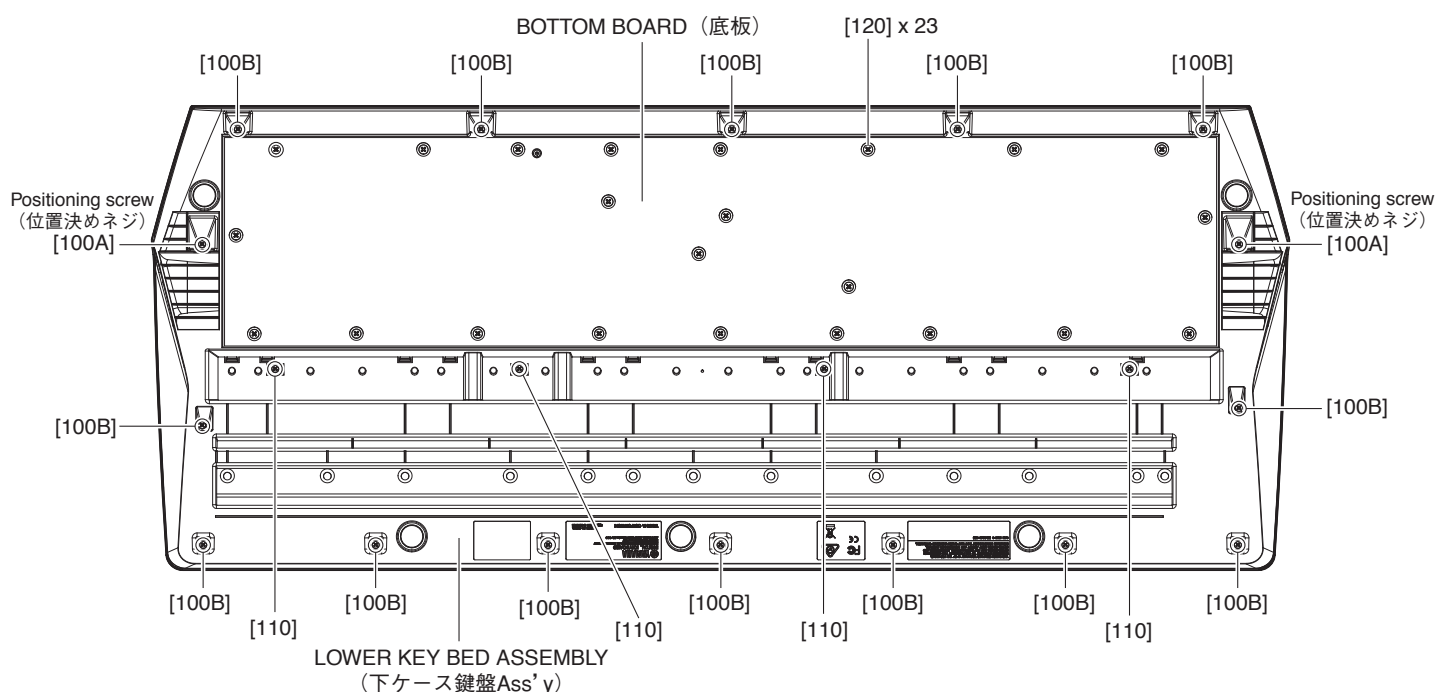

Fig. 1 (図1)
- 1-1. Remove the four (4) screws marked [110], two (2) screws marked [100A] and fourteen (14) screws marked [100B]. The lower key bed assembly can then be removed. (Fig.1)
* **When installing the lower key bed assembly, first tighten the two (2) screws marked [100A] and then the remaining screws. (Fig. 1)**
- 2-1. Remove the twenty-three (23) screws marked [120]. The bottom board can then be removed. (Fig.1)
- 1-1. [110] のネジ 4 本、[100A] のネジ 2 本と [100B] のネジ 14 本を外し、下ケース鍵盤 Ass'y を外します。(図 1)
※ 下ケース鍵盤 Ass'y を取り付けるときは、[100A] のネジ 2 本を締めてから他のネジを締めてください。(図 1)
- 2-1. [120] のネジ 23 本を外し、底板を外します。(図 1)